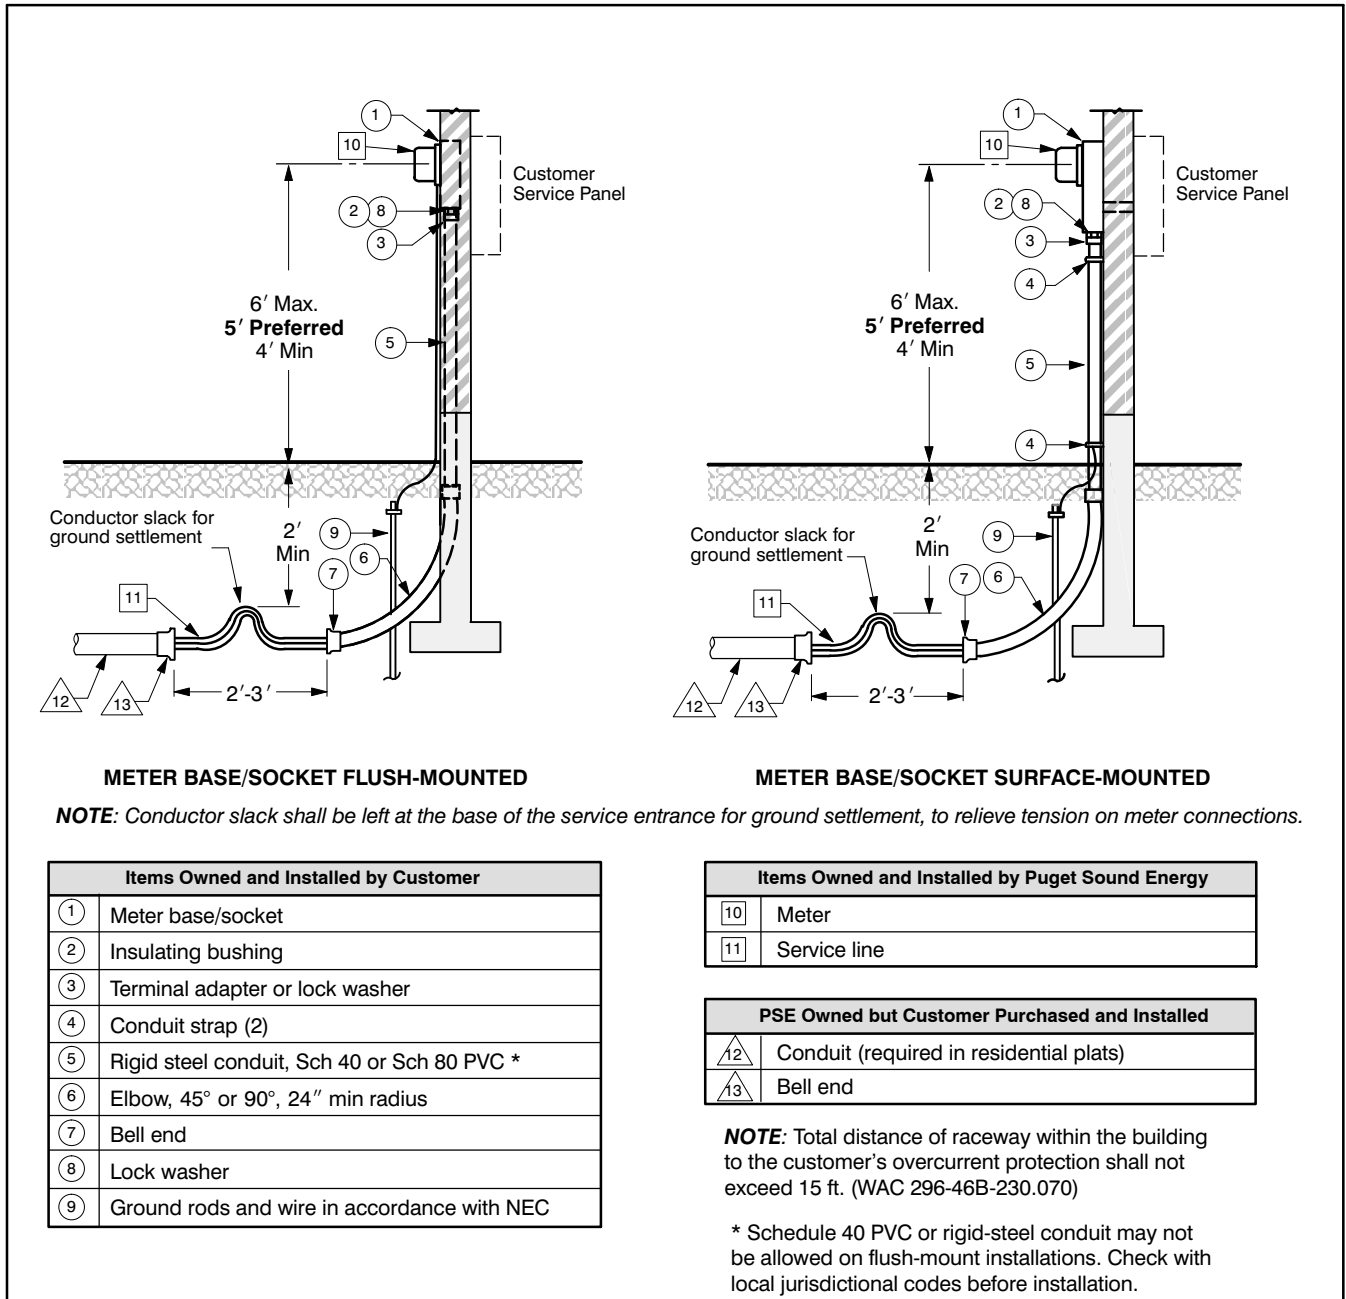

Figure 10 Two types of meter bases/sockets for permanent underground service
- Service entrance equipment can be installed either flush-mounted or surface-mounted (see *Figure 10*).
- A **current transformer (CT) enclosure**, if required, must be mounted on the outside of the structure it serves.